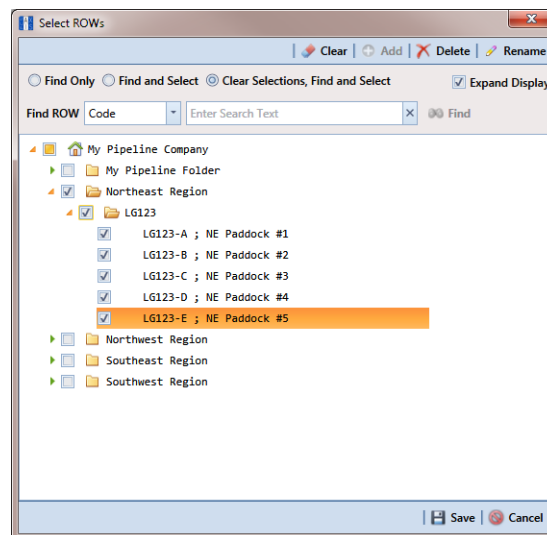

Figure 5-3. Select ROWs
- 1 Click the **Select ROWs** button  to open the *Select ROWs* window (Figure 5-3). Select the pipeline segment(s) with the facilities you want to work with, then click  **Save** to close the window.
- 1 Click the **Select ROWs** button  to open the *Select ROWs* window. Select the pipeline segment(s) associated with the continuous survey folder you want to delete. Then click  **Save** to close the window (Figure 5-3, page 137).
- 1 Select one or more pipeline segments in the *Select ROWs* window. Click  **Save** to close the window (Figure 5-3, page 137).